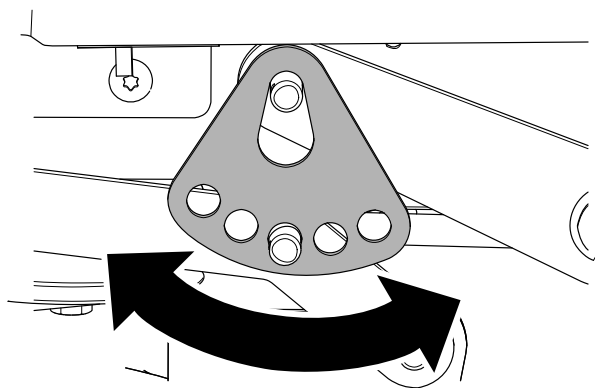

Figure 74
7. Rotate the height-of-cut plate to a different hole so that it supports the weight of the mower deck after you install the plate (Figure 74).
8. Install the washer and hairpin cotter (Figure 74).